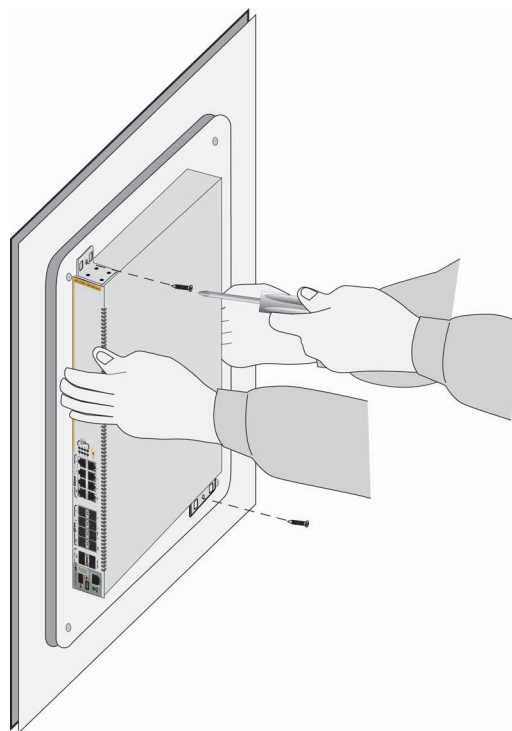

Figure 45. Securing the Switch to the Plywood Base
4. After attaching the brackets, have another person hold the switch on the plywood base on the wall while you secure it with the M4x32.3mm screws included with the switch. Refer to Figure 45 on page 84.